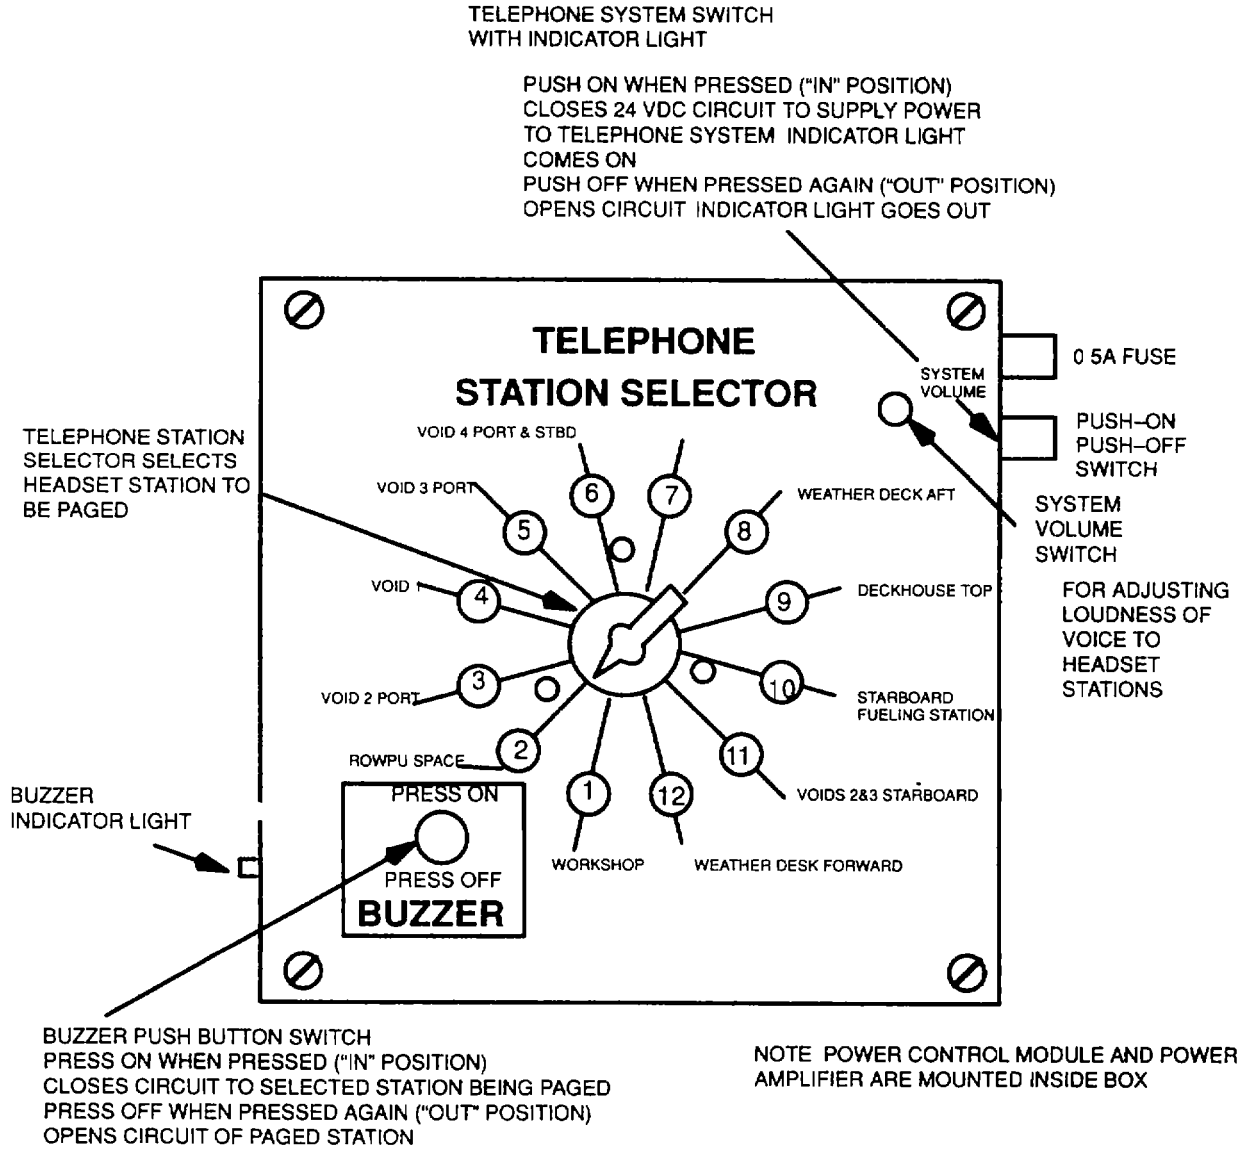

Figure 4-2. Telephone Station Selector Box Controls
**4-10 Operating controls and Indicators.** Controls and indicators for the telephone system are shown in Figures 4-2 thru 4-6.
- b. Make sure telephone power control module has a 0.5 A fuse in the fuse holder on the side of the telephone headset station selector (Figure 4-2).
- c. Make sure circuit breakers are closed (ON) in accordance with Table 4-2.
- a. On telephone station selector box (Figure 4-2), press telephone system PUSH-ON/PUSH-OFF button to supply 24 Vdc power to telephone system. Make sure white indicator light comes on.
- a. Make sure BUZZER switch on telephone buzzer station selector panel (Figure 4-2) is off.
- c. Press telephone system PUSH-ON/PUSH-OFF button to OFF (Figure 4-2). Make sure white indicator light goes out.